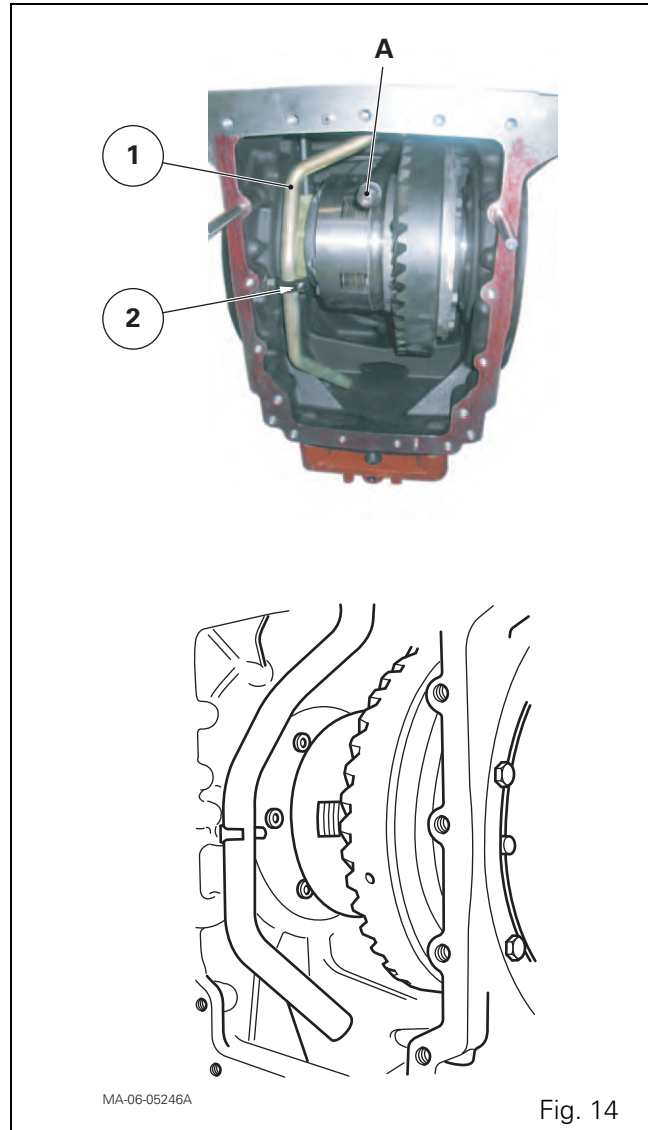

Fig. 14
59. Disconnect the differential lock supply pipe. Remove the 90° elbow union (44) located on the top left of the centre housing.
60. Raise the transfer pipe (42) in order to free it from the hydraulic chamber of the left-hand differential support.
62. Using the 3 mm Allen key, remove the screw (2) holding the pipe (1) clip. Take care not to lose the Nylstop locknut (Fig. 14).
63. Disconnect and remove the internal pipe (1) from the centre housing. Recover the "O" ring at its upper end.